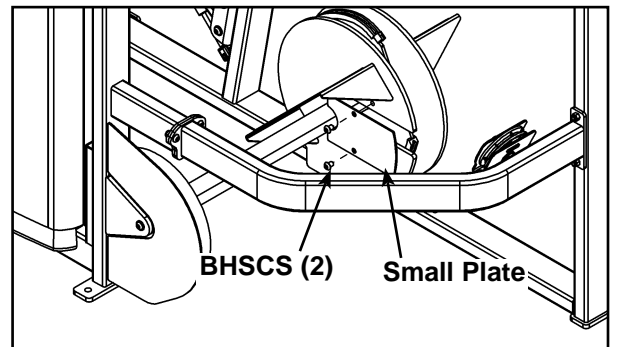

Figure 4
- I. At the opposite end of the pivot shaft (from step 4H), locate the small plate shown in Figure 4.